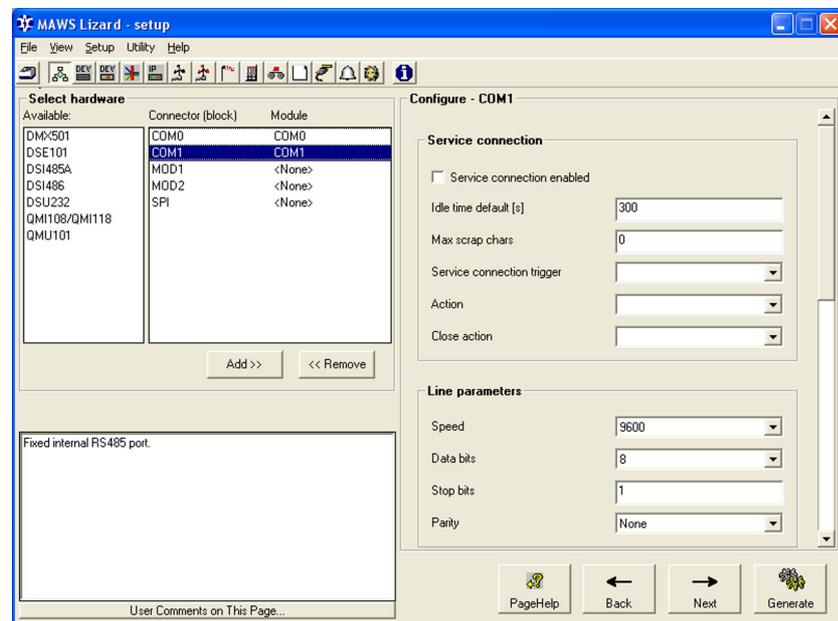

Figure 23 Optional Hardware View: Configuring Weather Transmitter Hardware
3. Configure the weather transmitter WXT520 hardware in the **Optional hardware** view as shown in Figure 23 on page 62.